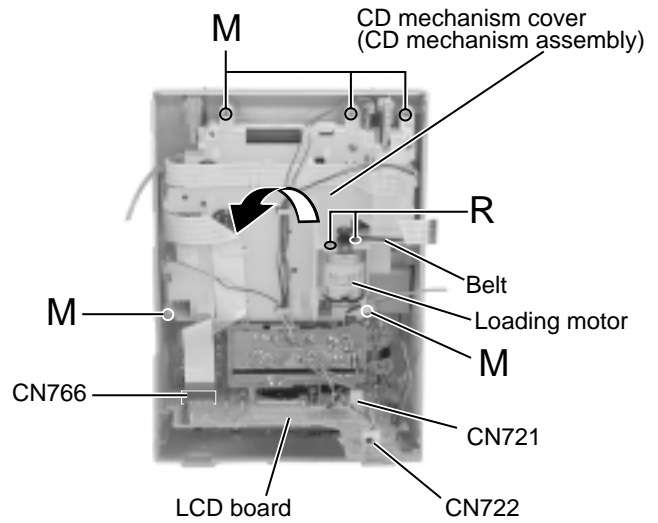

Fig.18
**■ Removing the CD mechanism assembly (See Fig.18 to 21)**
### ■ Removing the loading motor (See Fig.18)